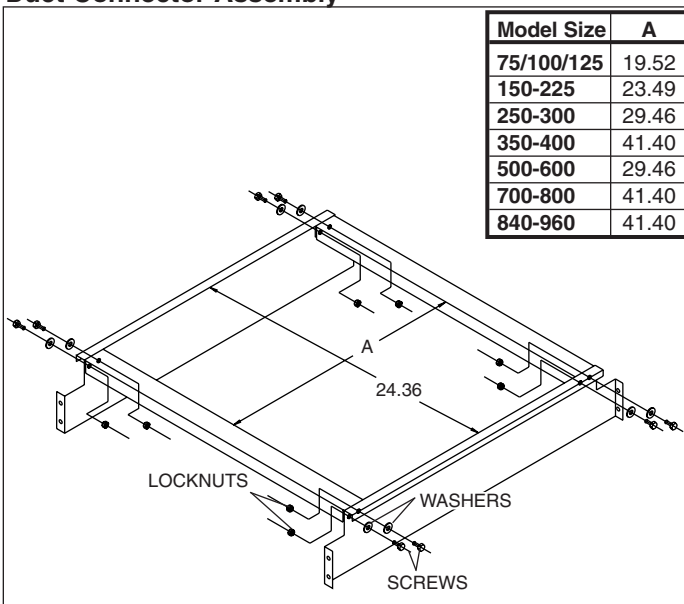

Figure 3.2 - Mounting Hole Locations
3. Determine the proper side of the roof curb on which to install the connector based configuration of the ordered unit. Locate the connector mounting holes in the roof curb. See Figure 3.2. When installing only one connector, it is important to determine the proper side of the roof curb on which to install the connector. The location of the duct connector must match the configuration of the ordered unit. (Example: If a discharge air connector is being installed, insure that the connector is installed on the discharge end of the roof curb. The unit orientation must be determined by the building plans.)